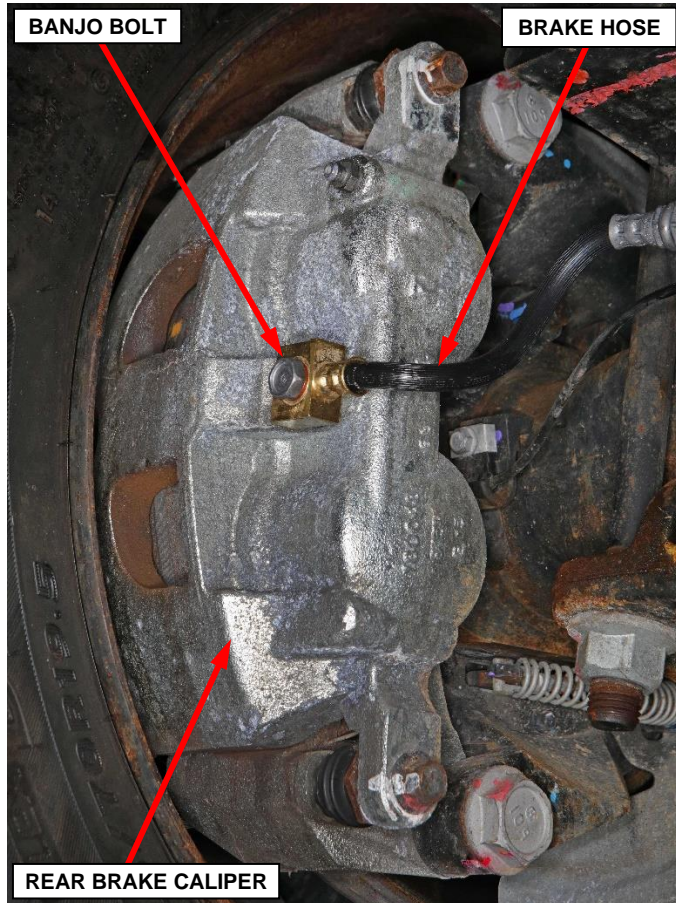

Figure 4 – Brake Hose Banjo Bolt
5. Remove the banjo bolt with copper washers and brake hose from the rear brake caliper (Figure 4).
3. Install the brake hose to the rear brake caliper. NEW banjo bolt and copper washers are included as part of the brake hose assembly. Tighten the banjo bolt to 35 N·m (26 Ft. Lbs.) (Figure 4).